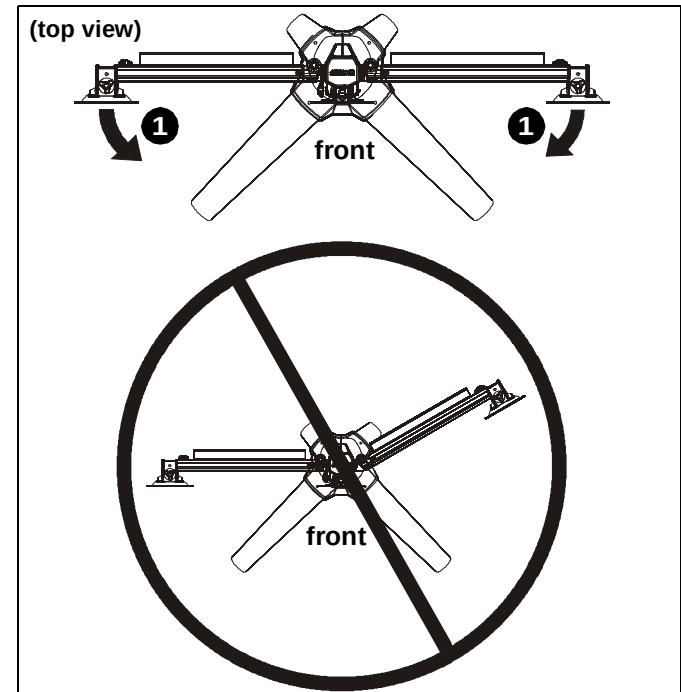

Figure 16
1. Array arms may pivot toward the front of mount up to 15° per arm. (See Figure 16)
WARNING: Pivoting array arms toward the back of mount may cause K3 Series mount to tip over causing serious personal injury or damage to equipment! Do not pivot arms toward back of mount! (See Figure 16)